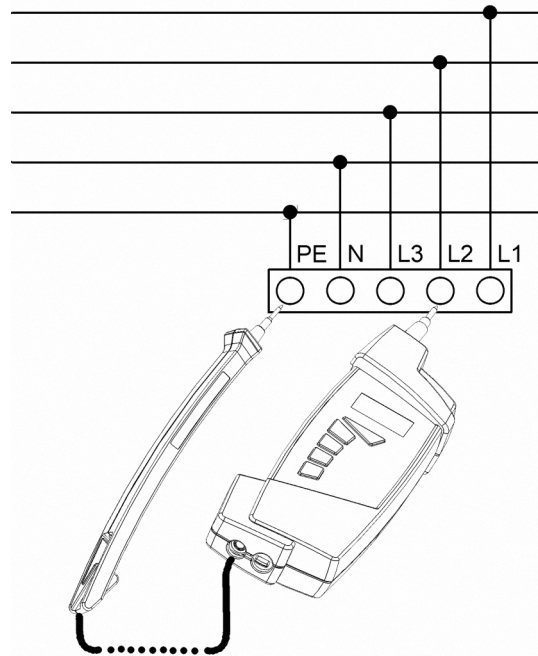

Figure 3.12: Connection Example: Loop Impedance Measurement, L2-PE
- Connect the test probe from **N** to **PE** (see example in figure 3.12).